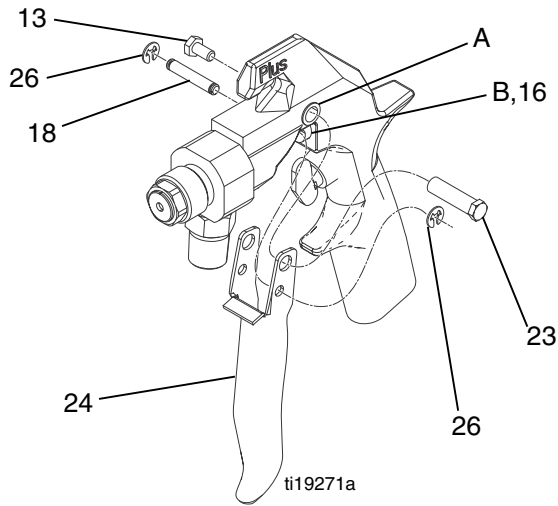

FIG. 17
7. Position the trigger (24) on the gun body. Insert the pivot pin (23) into the top hole (A) and secure with the screw (13) on the other side. Ensure there is an e-clip (26) on one end of the trigger pin (18). Slide the pin through lower trigger holes and through the slot (B) in the spring guide (16) -- turn the spring guide to align, as needed. Install the other e-clip (26) onto pin. See FIG. 17.